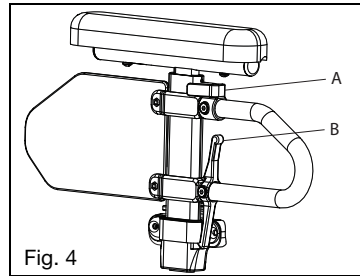

Fig. 4
- b. The armrest will automatically lock into place. Check to make sure the locking lever is as shown (Fig. 4:B).
- a. Rotate the release lever (Fig. 4:A).
- d. Push the arm pad until the upper arm locks firmly into place. Check to make sure the locking lever is as shown (Fig. 4:A).
- a. Squeeze the release lever (Fig. 4:B) and remove the armrest.